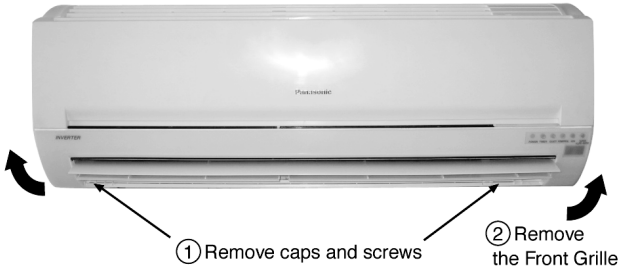

Fig. 1
1. Remove the Intake Grille and Air Filter from the Front Grille (Fig. 1).
1. Open the Intake Grille from the Front Grille by moving the catchers to center (Fig. 1).